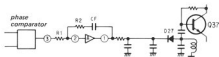

Fig. 20
The signals that appear at the terminal ③ after going through the phase comparator are fed to the active filter. Fig. 20 shows an approximation of this active filter.